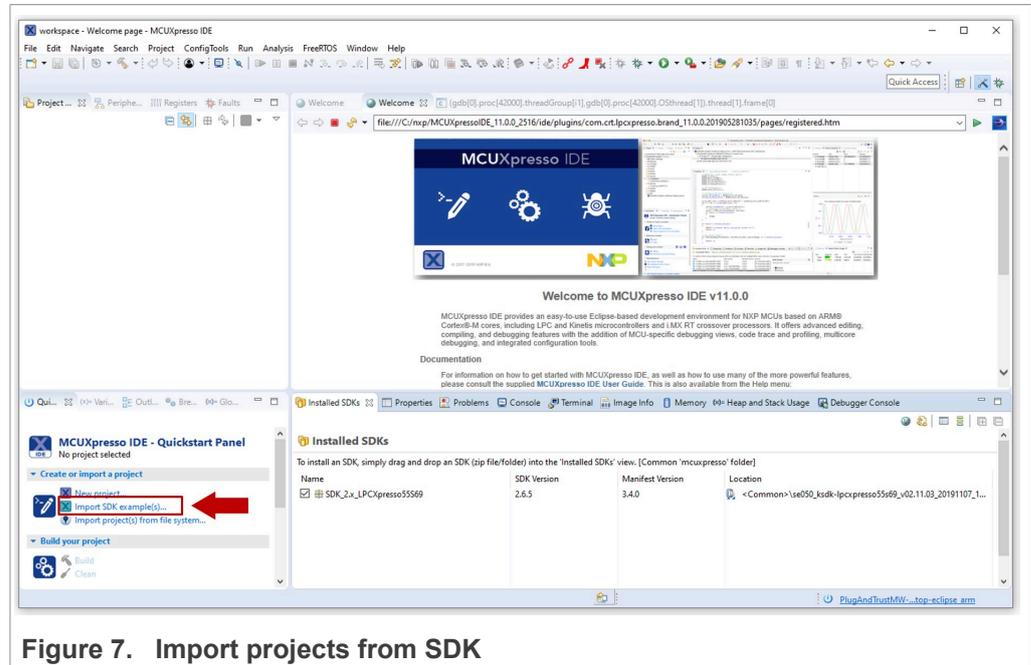

Figure 7. Import projects from SDK
1. Click *Import SDK example(s)* in the MCUXpresso IDE quick start panel as shown in Figure 7: